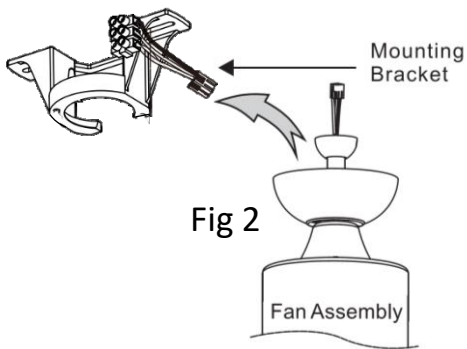

Fig 2
4. Carefully lift the fan, and place the down rod ball assembly into the mounting plate. (Fig 2)